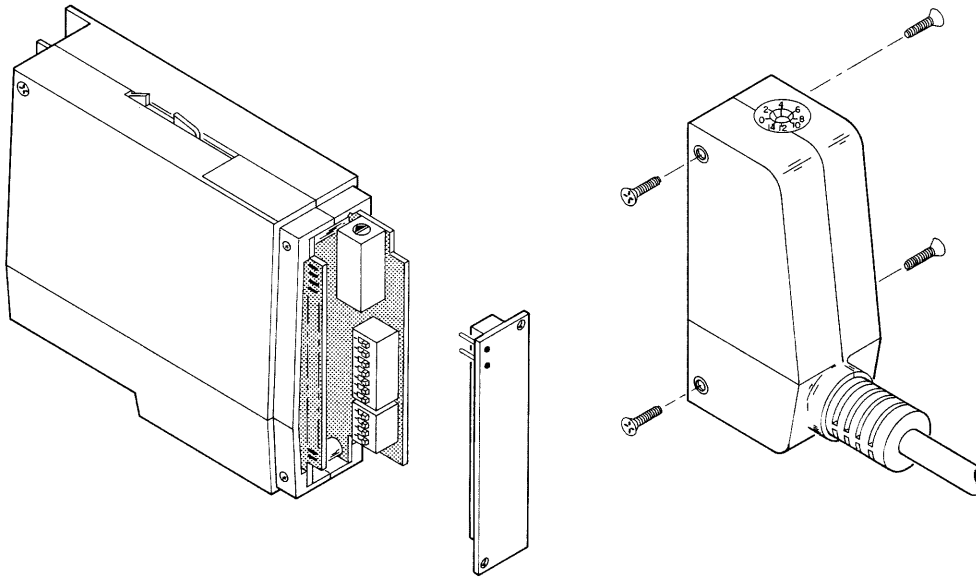

Figure 5-1. Test Connector Installation
1. Remove the interface rear housing and install the test connector, see Figure 5-1.